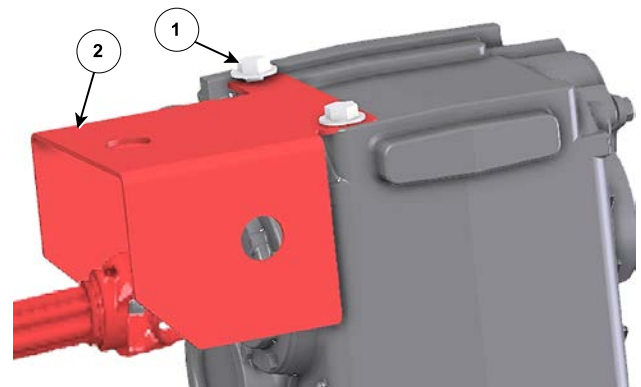

Figure 8: Install the PTO Shield over the Upper Shaft 224295C
5. Install the PTO shield (2) over the top splined shaft of the gearbox with 2 of M16 x 35 grade 8.8 hex bolts and 9/16" flat washers (1), see *Figure 8*.